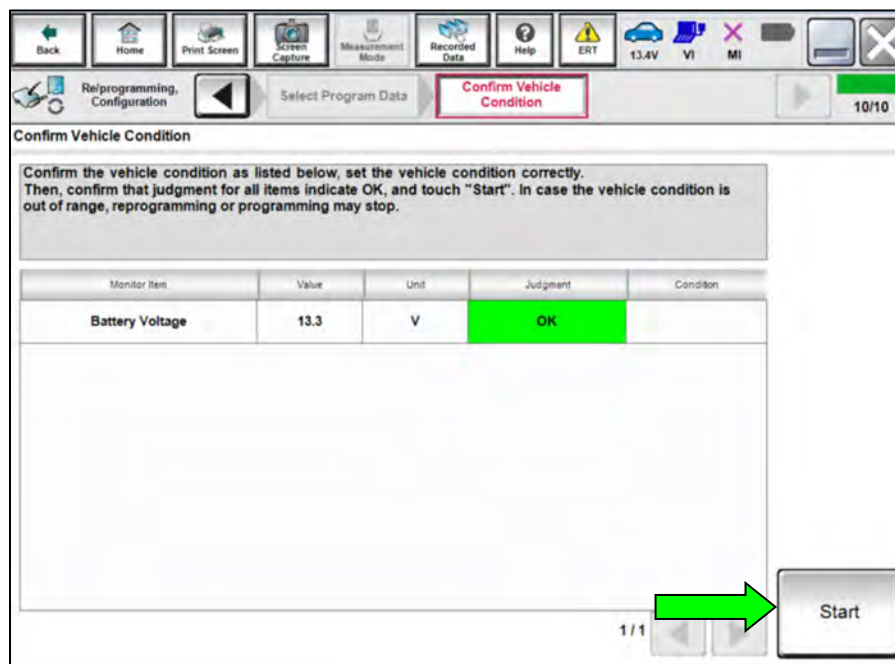

Figure 29
- If any of the items shown in Figure 29 display a status of **NG**, verify the battery maintainer/smart charger is turned ON and is securely connected to the 12V battery.